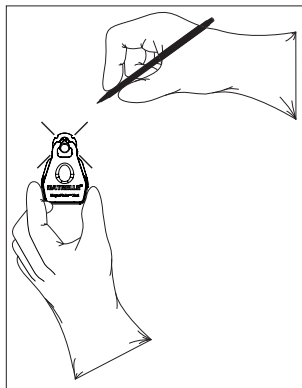

FIGURE 3
Step 5: With the magnet of the MAGNA-FINDER® Xact centered in the MAGNA-SITE® injection site, make a mark with an ink pen in each of the four notches around the anterior perimeter of the base (Reference **Figure 3**). After all four marks have been made, lift the device away from the patient. Using the same pen, carefully connect the opposing dots with a line, creating an injection “crosshair”. Then make a clear mark at the point where the two perpendicular lines intersect. This point is the exact location of the MAGNA-SITE® injection site.